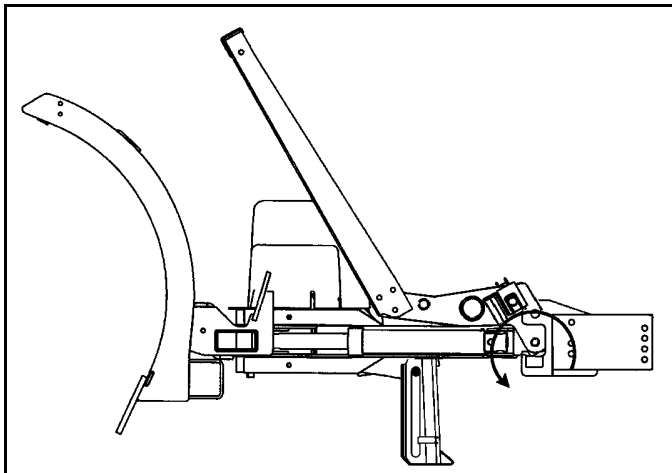

Figure 1-9
6. Rotate jack stand down and raise A-frame by pressing the up button. (See Figure 1-9).